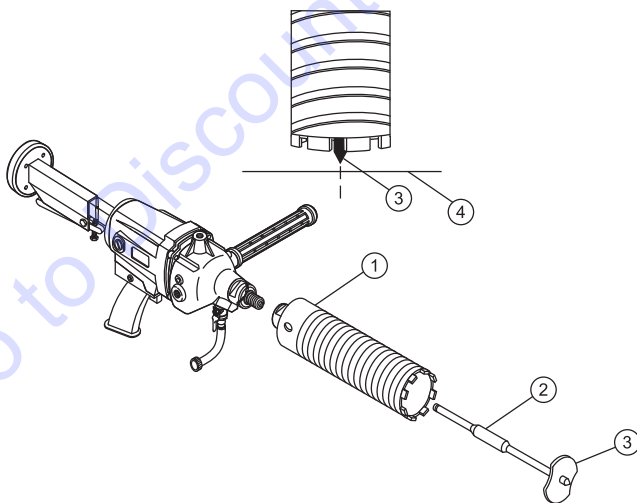

Figure 4. Drilling with a MQ Cobra™ Bit
The drilling of clean holes with Cobra™ core bits (1) requires an operating technique utilizing the center drill bit adapter (2). Center drill bit adapters are included with the core bit. As bits wear out, this adapter may be used with future core bits of similar depth and diameter. The adapter bit permits an anchoring point (3) so the bit can be accurately introduced into the surface (4). Once the hole is started, the center drill bit adapter (2) must be removed. See Figure 4.
3. Screw the core bit onto the main shaft of the core drill by turning it clockwise by hand until tight (Figure 4).
3. Using the wrenches as illustrated in Figure 4, remove the core drill bit from the drill.